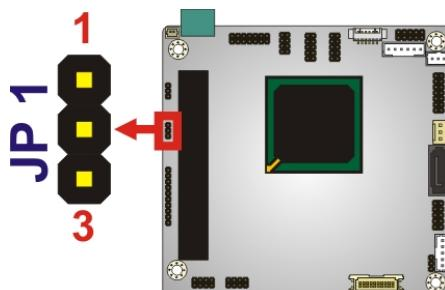

Figure 4-7: PCI-104 Voltage Jumper Location
**Jumper Location:** See Figure 4-7